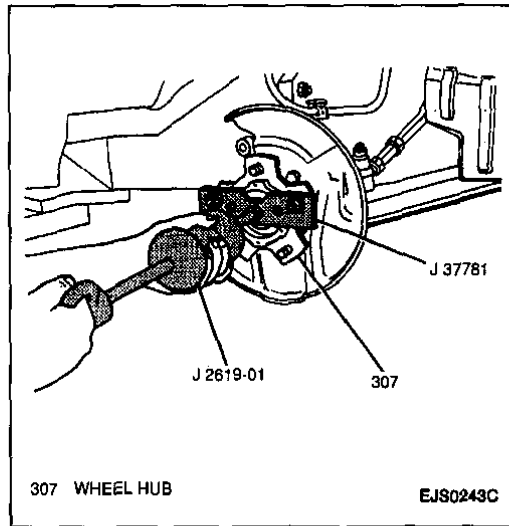

Figure 24—Removing Wheel Hub and Bearing
8. Wheel hub complete with bearings and oil seals from spindle. If wheel hub cannot be removed by hand, use a J 37781 with a J 2619-01 (Figure 24).